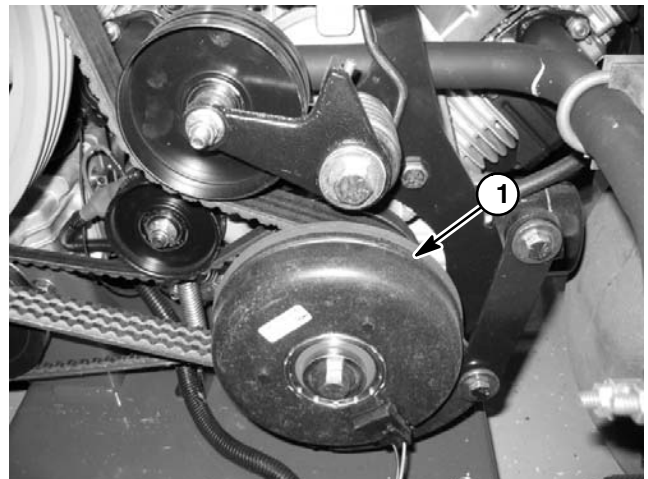

Figure 35
3. Locate electric clutch on engine crankshaft (Fig. 35). Unplug machine wire harness connector from clutch.